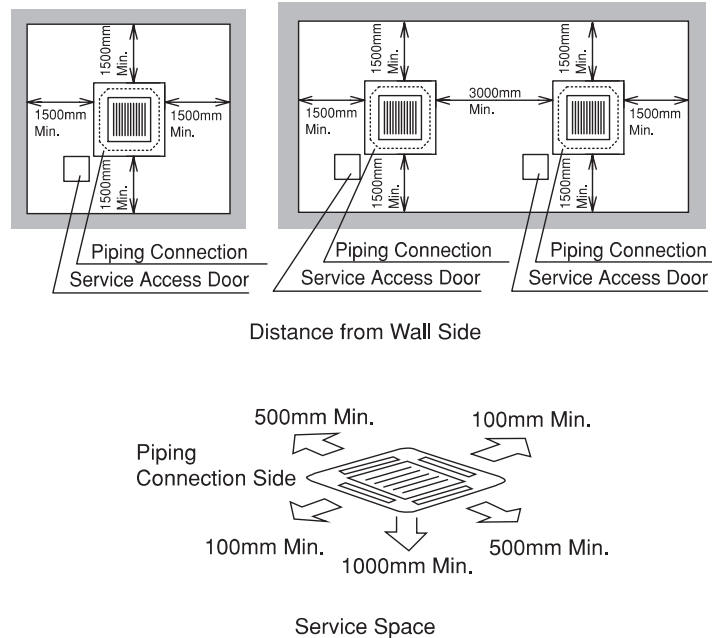

Fig. 3.1 Space around Indoor Unit
- Install the indoor unit with a proper clearance around it for operation and maintenance working space, as shown in Fig. 3.1.